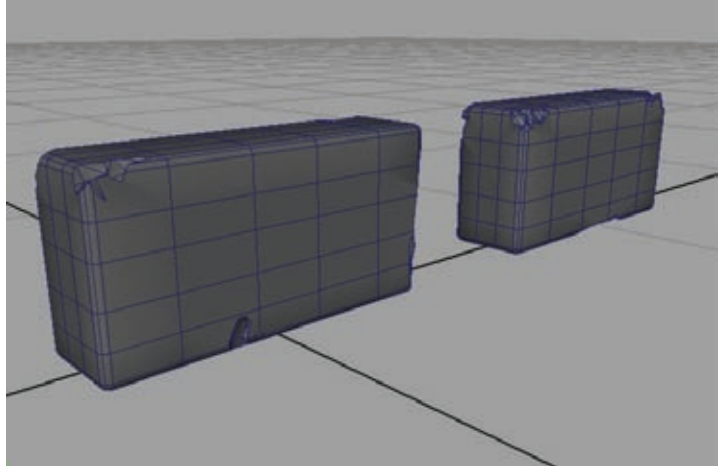

Figure 1.7
If, when you are done, you find that you would like more chipped-away parts or that some of your rocks were intersecting the bricks too deeply and too much brick has been carved away, undo (Z) and redo just them until you get a result you like. Eventually, you should get a result similar to Figure 1.7. With these three bricks, you'll have enough variation that your brick wall shouldn't look too repetitive or boring.